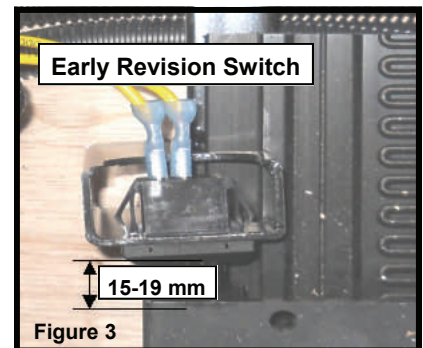

Figure 3
4. Use the wall switch to move the bed up enough to set the switch clearance - 15-19 mm/approximately 5/8" - 3/4". (Figure 3 & 4)